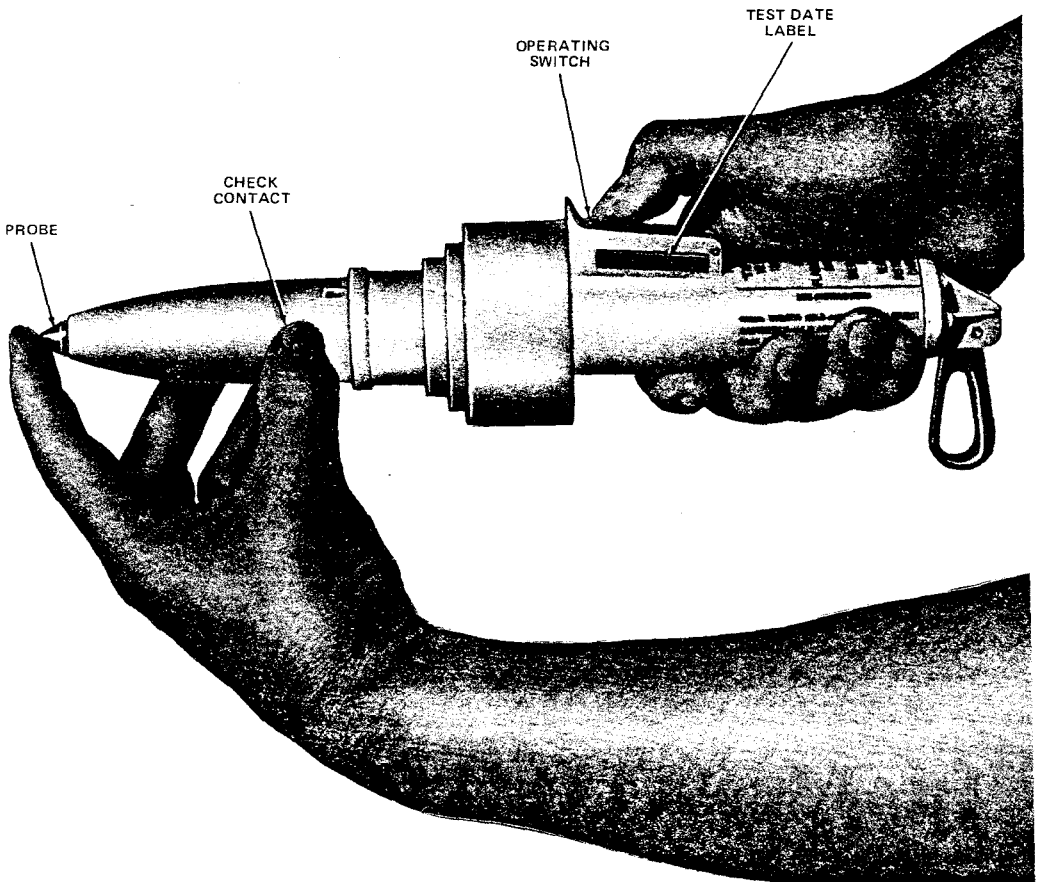

Fig. 13—Checking Test Set Before Use
- (3) With the switch depressed, touch both the probe tip and the "check contact", using the free hand (Fig. 13). Remove the free hand; the red LED should flash. If it does not, **do not use**.